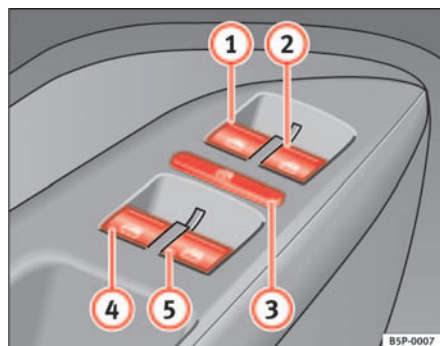

Fig. 68 Section of the driver door: controls for the front and rear windows
The buttons ⇒ page 106, fig. 68 ① and ② have two levels for opening the window and two for closing it. This makes it easier to open or close windows to the desired position.